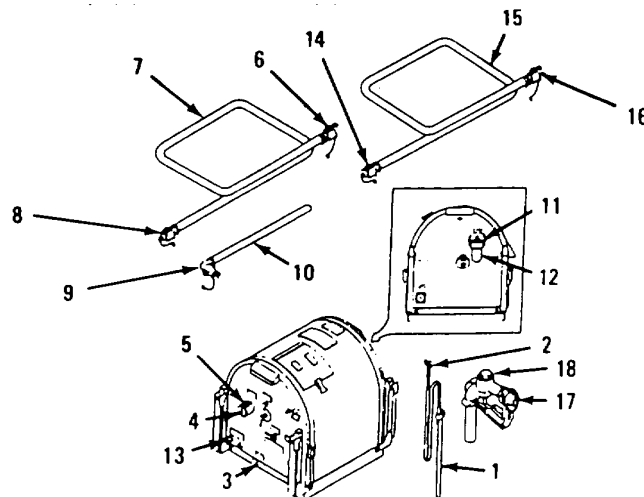

Figure 2-4. Components of Pumping Assembly
b. Assembly of Pumping Assembly. (Refer to Figure 2-4.)
- (1) The pump unit should be positioned on a level surface near the source of fuel being pumped.
- (2) Drive ground rod (1) into earth. Secure one end of grounding cable (2) to pump ground connection (3). Secure other end of grounding cable to ground rod (1). Make sure grounding cable makes metal-to-metal contact with pump frame and rod.
- (3) Remove dust plug (4) from suction (intake) female cam-lock coupling (5). Remove dust cap (6) from suction hose assembly (7). Connect male end of suction hose assembly (7) to suction (intake) female cam-lock coupling (5).
- (4) Remove dust plug (6) from suction hose assembly and remove dust cap (9) from coupler and drum unloader 90 degree elbow (10). Connect female end of suction hose assembly (7) to drum unloader 90 degree elbow (10) or make connections to other pump accessories as required by desired application.
- (5) Remove dust cap (11) from pump discharge male cam-lock coupling (12). Close the pump drain valve (13), then prime the pump assembly by pouring approximately two gallons of the liquid to be pumped through the pump discharge male cam-lock coupling (12).
- (6) Remove dust plug (14) from discharge hose assembly (15), and connect female end of discharge hose assembly (15) to pump discharge male cam-lock coupling (12).